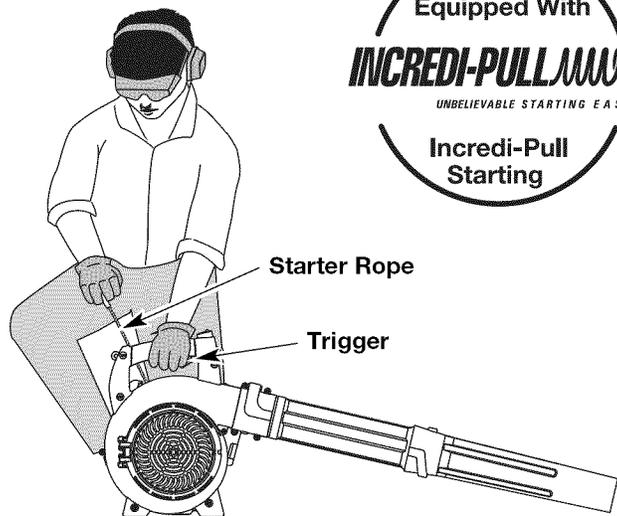

Fig. 13
WARNING: Avoid accidental starting. Make sure you are in the starting position when pulling the starter rope (Fig. 13). To avoid serious injury, the operator and unit must be in a stable position while starting. To avoid serious personal injury, make sure that the blower tube is locked in place or firmly installed.
- NOTE: The unit should be started in idle speed. Do not squeeze the trigger while starting** (Fig. 13).
5. Crouch in the starting position (Fig. 13) and pull the starter rope out until you feel some resistance. This is usually around 2-4 inches. Pull 4 times in smooth and rapid pulls.
6. Place the choke lever in Position 2 (Fig. 13).
9. Place the choke lever in Position 3 (Fig. 13). The unit is ready for use.